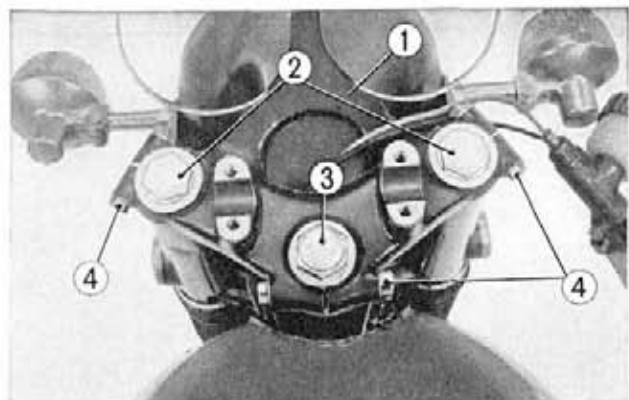

Fig. 11-4 ① Fork top bridge ③ Stem nut
② Steering stem thread
6. Loosen the stem nut, two front fork top bolts, three 8mm setting bolts and then remove the fork top bridge. (Fig. 11-4)